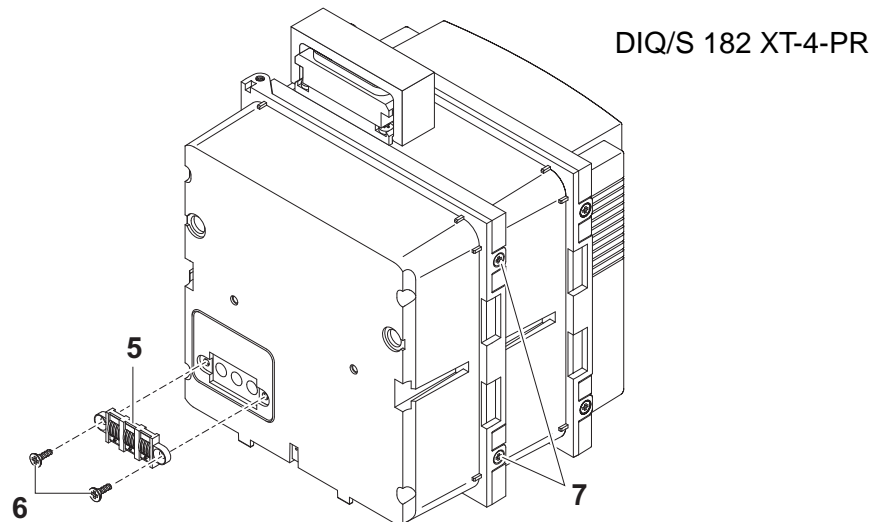

Fig. 3-3 Mounting the contact base (variant 1)
4	Fix the contact base (pos. 5 in Fig. 3-3) onto the DIQ/S 182-XT-4-PR with the two plastic self-tapping screws (pos. 6).
5	Remove the two countersunk screws (pos. 7 in Fig. 3-3) of the DIQ/S 182-XT-4-PR and swing open the lid.